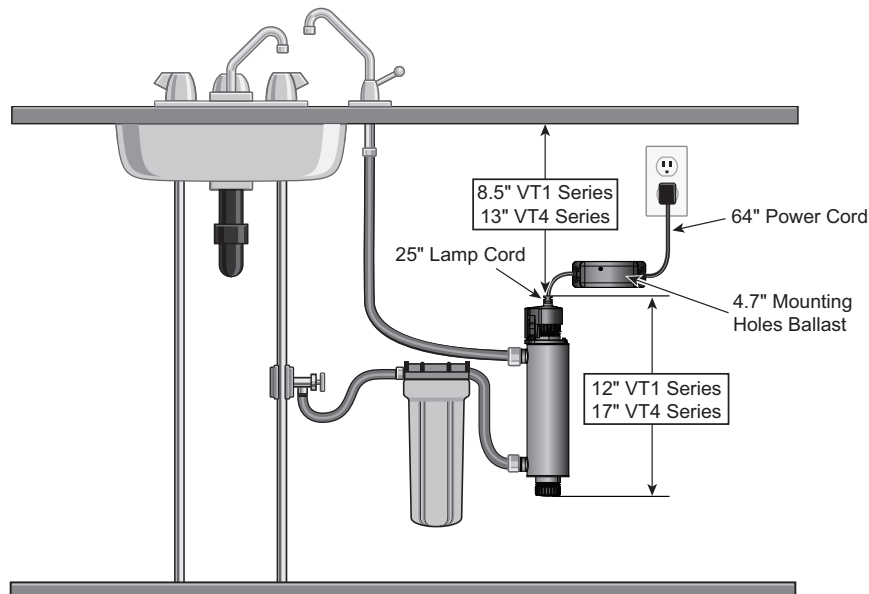

Figure 2 Disinfection System
1. Figure 2 shows the installation of a typical point of use (POU) system and the related components that may be used for the installation. The use of a by-pass assembly is recommended in case the system requires off-line maintenance. In this case, note the system requires a supplementary disinfection for the distribution system if any water is used during by-pass condition. In addition, during by-pass, the water will NOT be disinfected and a “DO NOT CONSUME THE WATER” tag should be physically installed on the by-pass assembly until such time as the system is sanitized and returned to service. For more information, refer to Section 3.2. If the water is to be consumed while the system is off-line, the water must be boiled for two minutes prior to consumption.